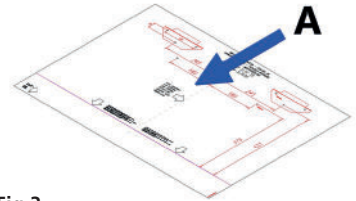
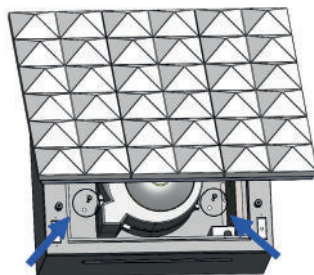

Fig.3
Fig.7
Fix the hood to the wall using the screws supplied (Fig.7).
- › When the appliance is used in recirculating mode, the active charcoal filter (Fig.7) needs to be periodically replaced. The charcoal filter can be removed by removing the grease filter first (Fig.3), and by pulling its special plastic tongue until it is unfastened from its slot. Reinsert the charcoal filter by performing the opposite operation.